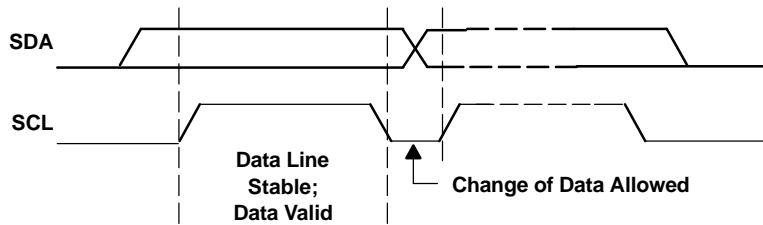
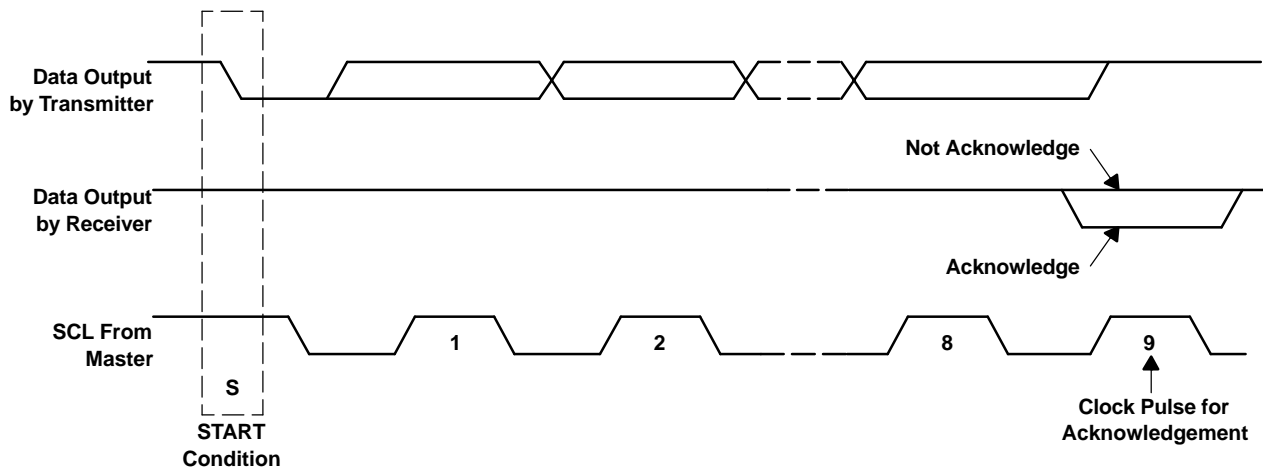

Figure 32. Bit Transfer on the I2C Bus
Figure 33. Acknowledge on the I2C Bus
- The master then generates the SCL pulses, and transmits the 7-bit address and the *read/write direction bit*  $R/\overline{W}$  on the SDA line. During all transmissions, the master ensures that data is *valid*. A *valid data condition* requires the SDA line to be stable during the entire high period of the clock pulse (see Figure 32). All devices recognize the address sent by the master and compare it to their internal fixed addresses. Only the slave device with a matching address generates an *acknowledge* (see Figure 33) by pulling the SDA line low during the entire high period of the ninth SCL cycle. Upon detecting this acknowledge, the master knows that communication link with a slave has been established.